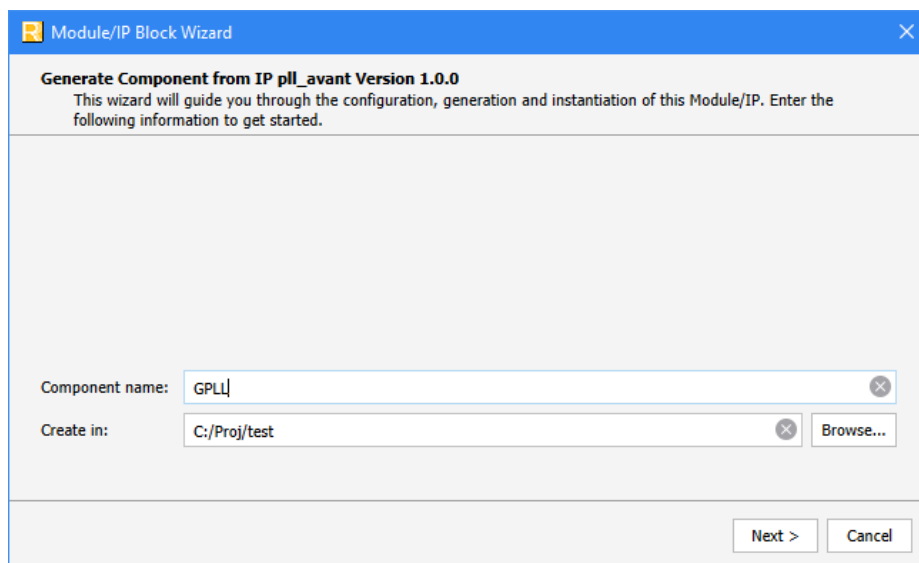

Figure 3.1. Configure Module/IP Block Wizard
2. In the **IP Catalog** tab, double-click on **PLL** under **Module, Architecture_Modules** category. The **Module/IP Block Wizard** opens as shown in Figure 3.1. Enter values in the **Instance name** and the **Create in** fields and click **Next**.
5. Click **Finish**. All the generated files are placed under the directory paths in the **Create in** and the **Instance name** fields are shown in Figure 3.1.